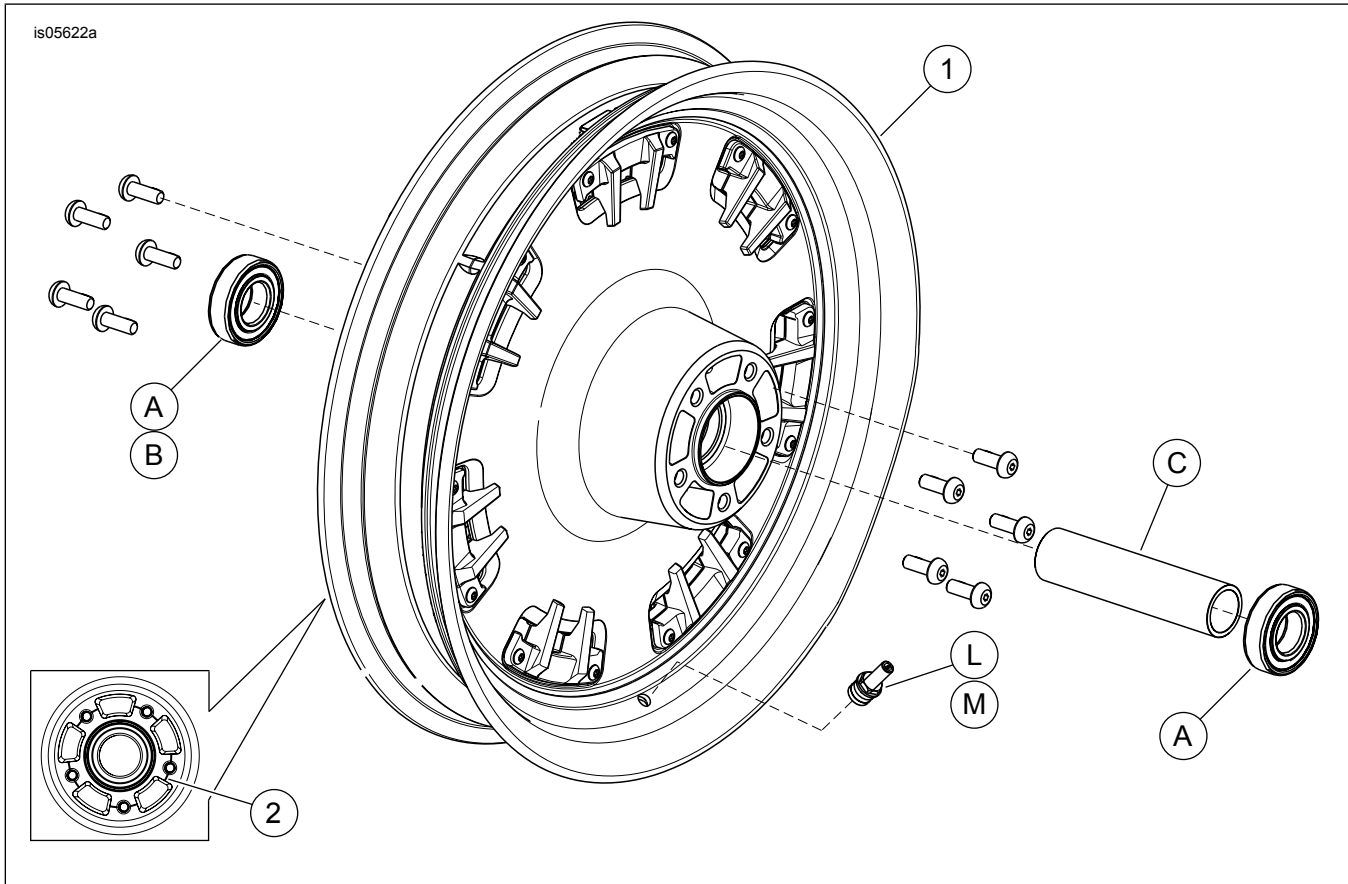

Figure 1. Service Parts: Fang Front Wheel
2. See Figure 1. Install valve stem assembly (L) on wheel. Refer to service manual.